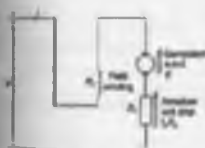

Figure 22.20
In the series-wound motor the field winding is in series with the armature across the supply as shown in Fig. 22.20.
For the series motor shown in Fig. 22.20,
- (a) With reference to Fig. 22.20, generated e.m.f., E_1 at initial load, is given by